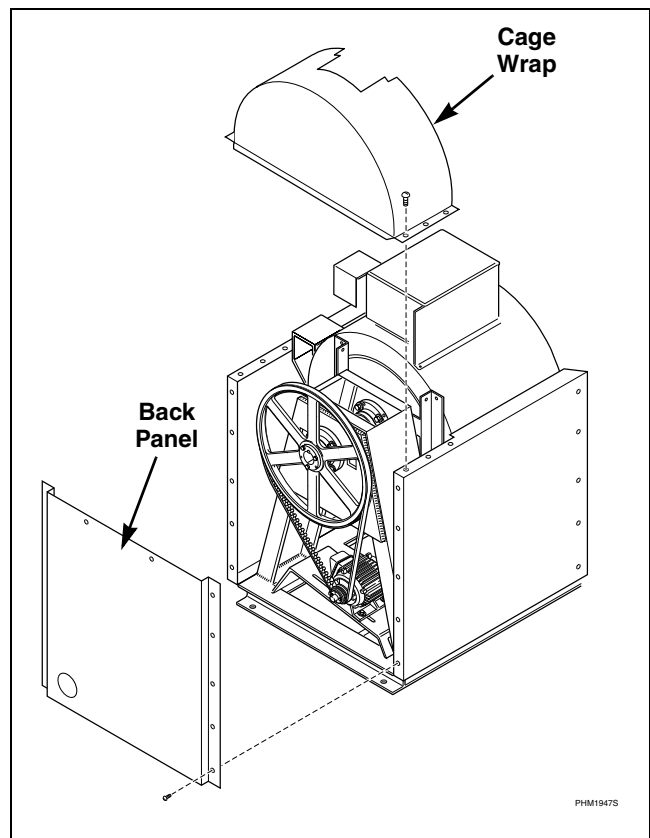

Figure 16
- Remove the screws attaching the cage wrap and back panels to the machine. Remove the cage wrap and back panel. Refer to *Figure 16*.
- b. Remove the screws attaching the cage wrap and back panels to the machine. Remove the cage wrap and back panel. Refer to *Figure 16*.